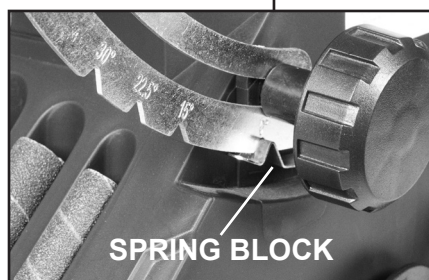

FIG. 16
The work table on the 50-310 can tilt from 0 to 45 degrees. The curved Table Adjustment Support has detents at 0, 15, 22.5, 30 and 45 degrees. This allows you to sand or add bevels to your work. FIG. 16.
1. Loosen the 2 large side Knobs, Fig. 16, A, that secure the curved table brackets (B) in position.
2. Push down the Spring Block that is under the right Support, Fig. 16, B, with the angle detents. Fig. 16.